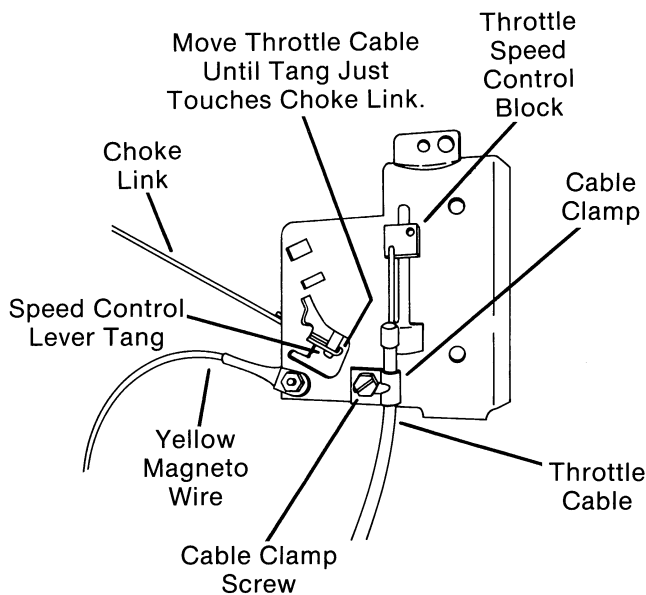
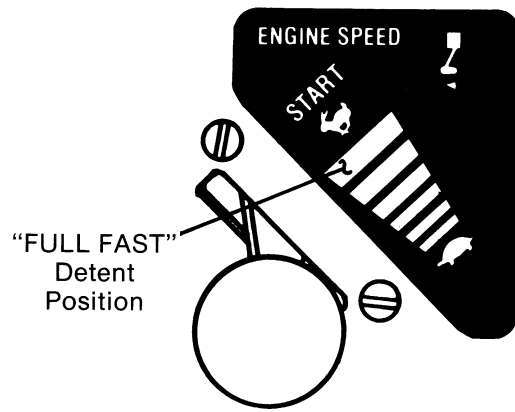

FIG. 4
FIG. 8
- D. Disconnect throttle cable at engine, by loosening throttle cable clamp screw enough so that cable can be removed. Disconnect cable end from throttle speed control block. (Fig. 4)
- E. Disconnect yellow wire to magneto at left rear corner of engine next to throttle cable clamp screw. (Fig. 4)
P. To replace engine, reverse above procedure until you reach the point of connecting the throttle control cable. Then follow this adjustment procedure: Move throttle control lever up to the "FULL FAST" position (which is the detent before "START" position is reached). (Fig. 8) Attach end of throttle control cable to throttle speed control block and slip cable under cable clamp. Push throttle cable up until tang on speed control lever just touches choke link, as shown in (Fig. 4). Tighten cable clamp screw.